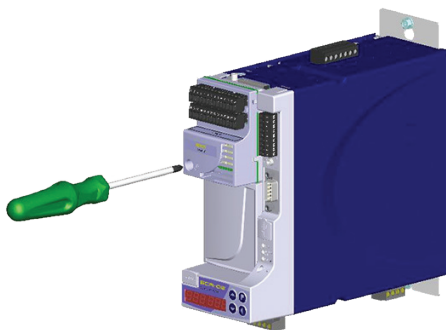

Figure 4.3: Fastening of the grounding screw of the accessory
4. Fasten the grounding screw of the accessory to the servo drive, as shown in figure 4.3.